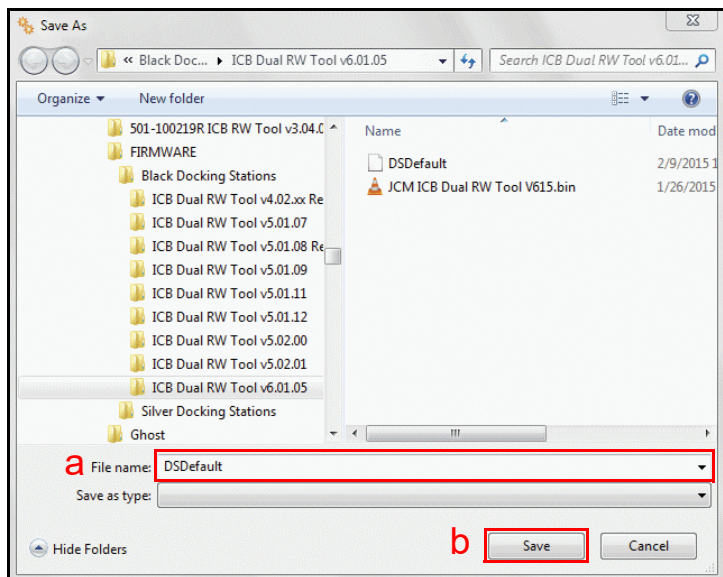

Figure 20 Save File Window
- From the DSA Main Screen, click the Save  screen button. The application will open a standard Save File window (Figure 20).
- In the File Name data field (Figure 20 a), enter the desired File Name for the Docking Station Settings to be saved to.
- Click the Save screen button in the Save File window (Figure 20 b). The settings are saved, and the DSA Main Screen reappears.